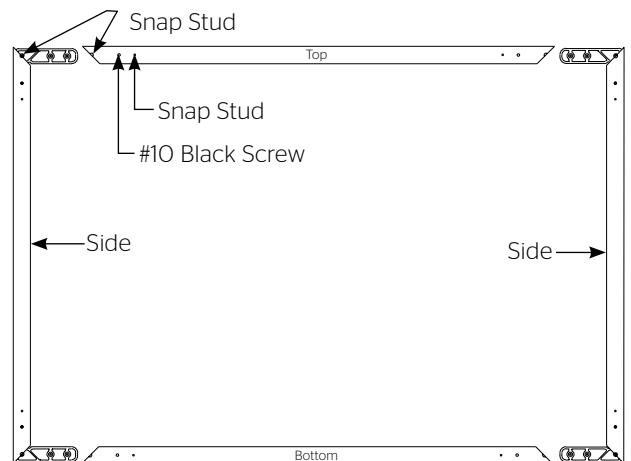

Figure 1. Rear View
2. Slide the frame pieces together at corners. (**NOTE:** Frame assembly holes may not appear to fit properly at the corners until all fasteners have been attached. Once fasteners are attached, the frame corners will be drawn in for a proper fit.) Secure frame pieces with #10 screws provided. Do not tighten screws until all are started, then tighten. See Figure 1.